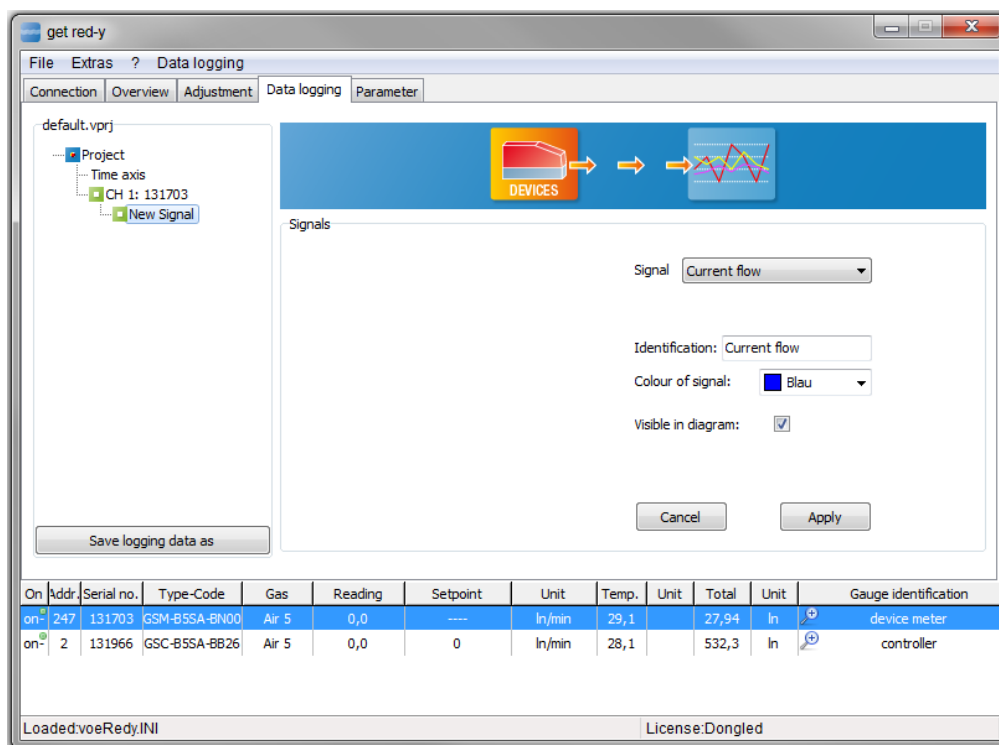

Figure 40: Signals can be added to Channel 131966
- A. Available Channels:** All the available devices (Channels) are listed here. Double-click the serial number or click the [Accept] button to display a new window as shown in Figure 40.